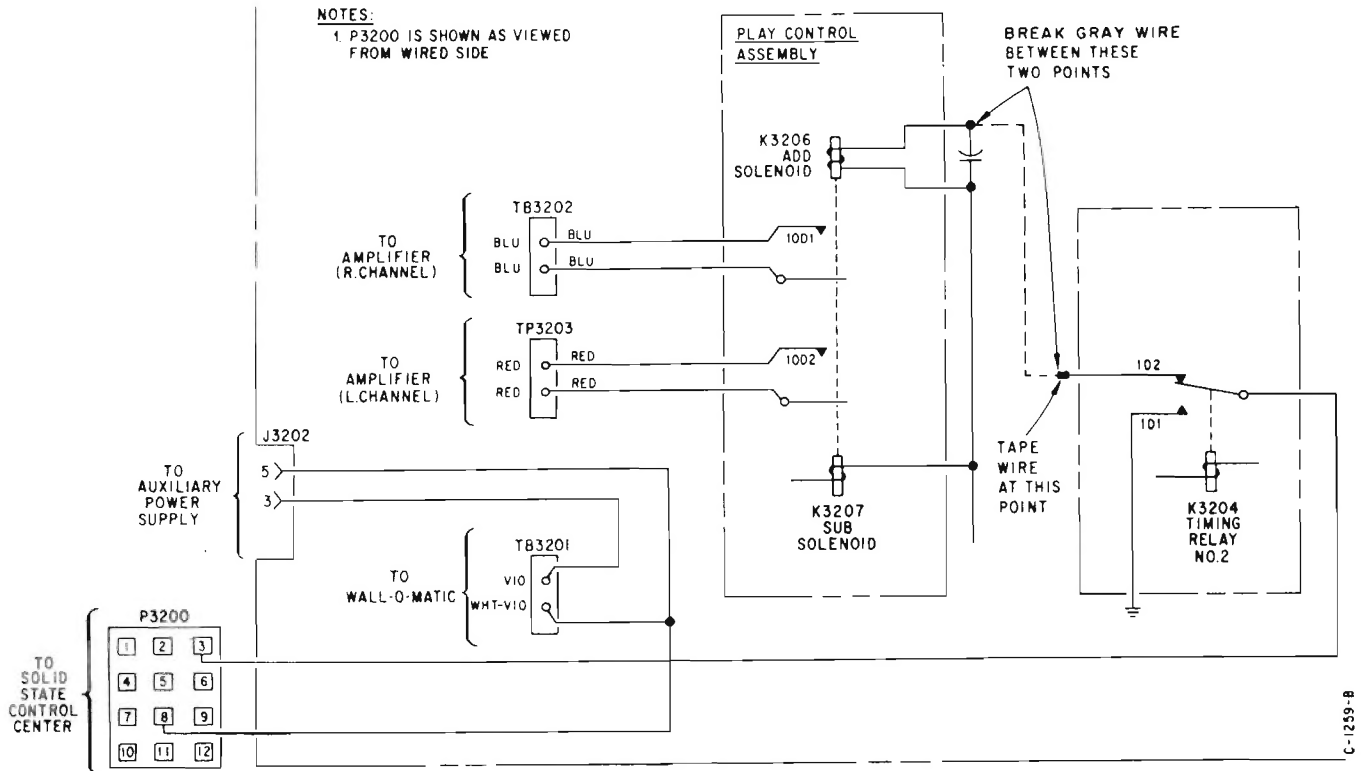

Figure 1. Stepper Circuit Modification
1. Cut the GRY wire in the stepper unit at the points indicated in Figure 1. Tape the end of the wire where indicated.